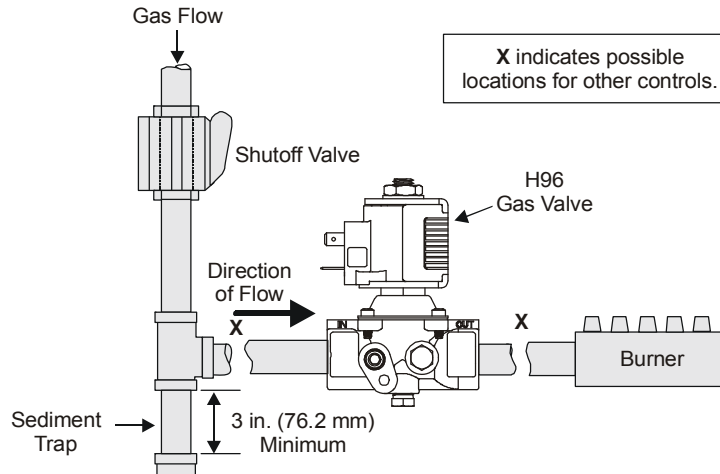

Figure 3: Typical H96 Installation
7. Mount the valve to the pipework (see Figure 3). Use an approved pipe joint sealing compound on the male threads before assembly. Remove excess compound after mounting the valve to the pipework. Threads of the pipe and nipples must be smooth and free of tears and burrs. Steam clean all piping to remove foreign substances such as cutting oil or thread chips. A sediment trap should also be installed in accordance with the National Fuel Gas Code NFPA 54 (Figure 3).